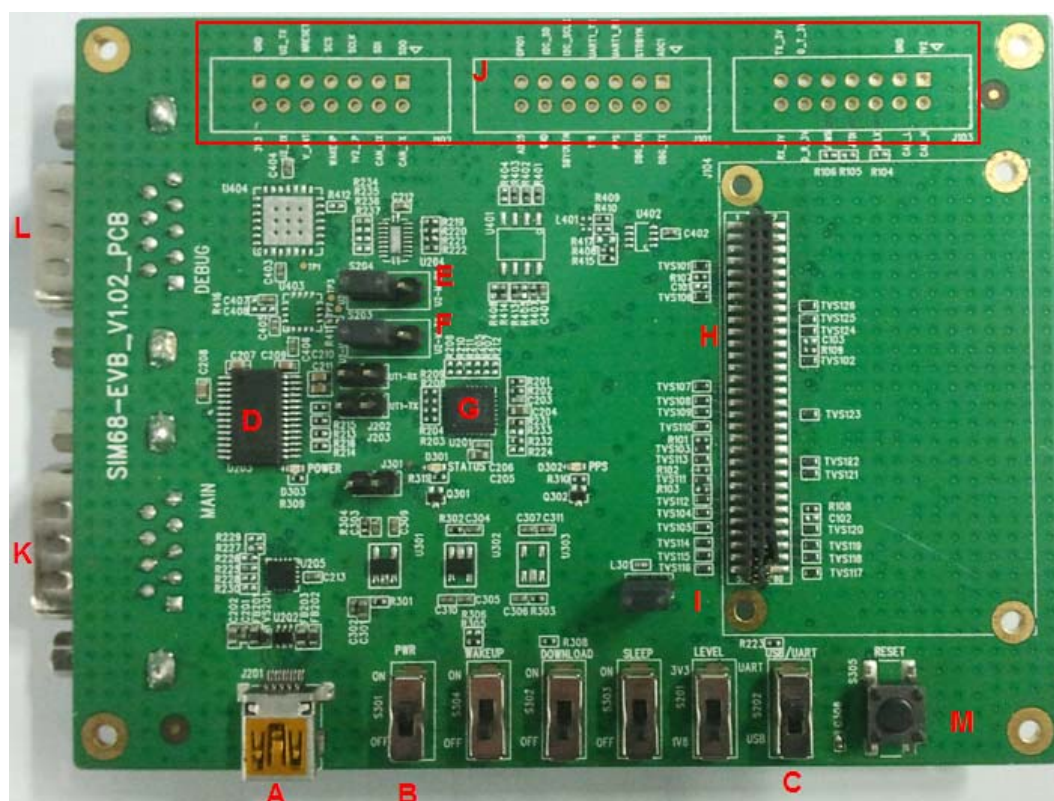

Figure 1: SIM68-EVB components function
3. Setting the jumper “N” and “O” as figure 1 shows.